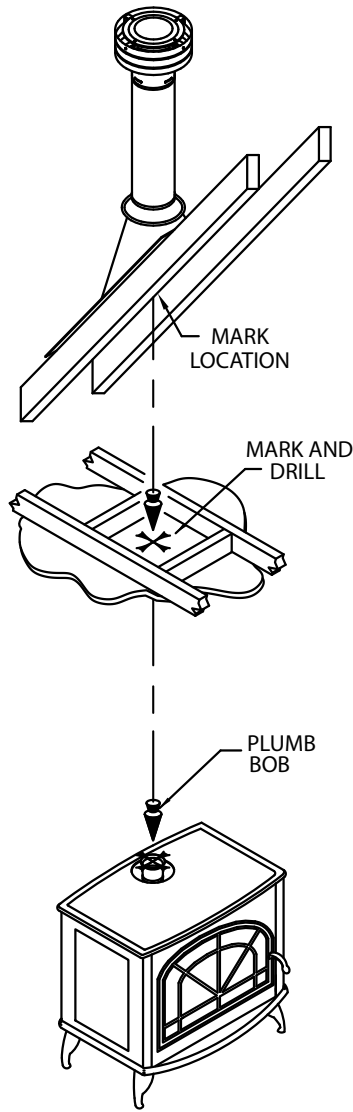

Figure 13
**(Fig. 13).** Determine if ceiling joists, roof rafters, framing or other materials will obstruct the venting system. You may wish to relocate the appliance, or to offset, to avoid cutting load-bearing members.